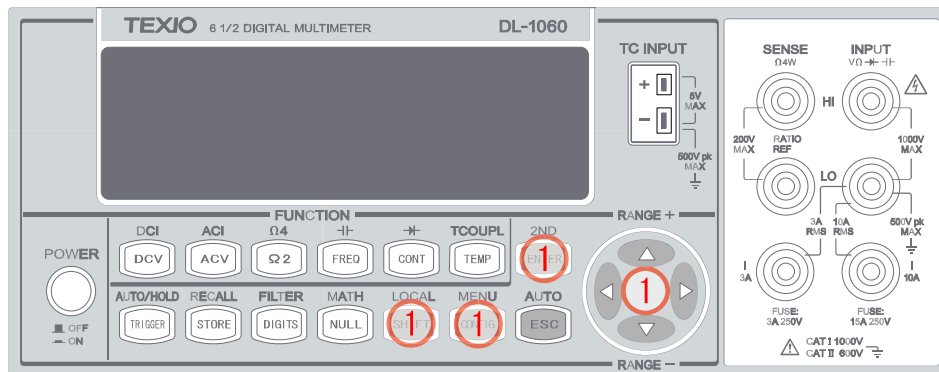

Figure 3-36
1. Do the procedure SHIFT + CONFIG > SYSTEM > ENTER > INIT MODE > ENTER > "SAVE DATA" / "DEFAULT SET" > ENTER to save your current setting or to resume the default setting as shown in **Figure 3-36**.